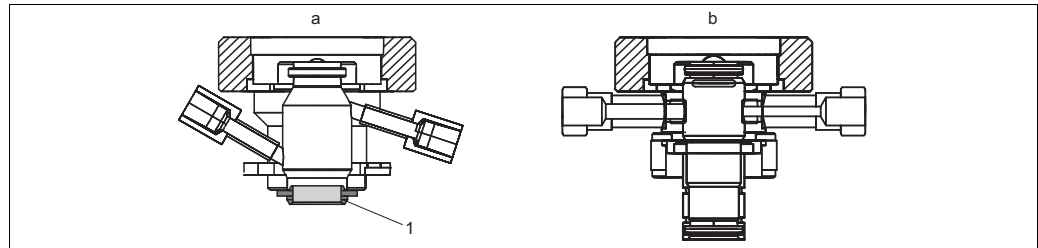

Fig. 13: Rinse chamber versions (depending on process connection)
- a. Assembly version with G1¼ internal thread process connection (→ Fig. 13, pos. b):